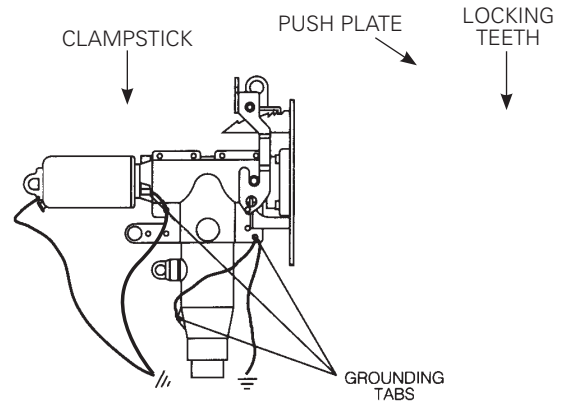

Figure 13a. Line illustration of full engagement of push plate.
- Push forward on push plate firmly with clampstick until a bump is felt and latch plate fully engages locking teeth. (Refer to Figure 13a.)